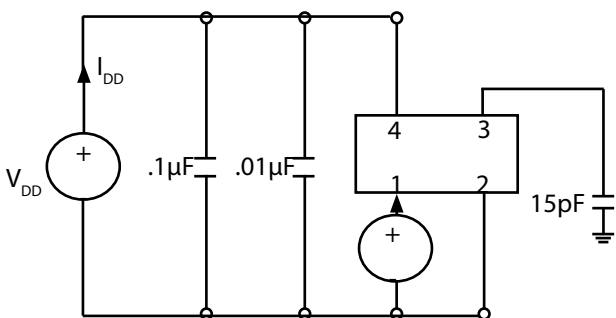

Fig 1: Test Circuit
- 2] Parameters are tested with production test circuit below , Figure 1.